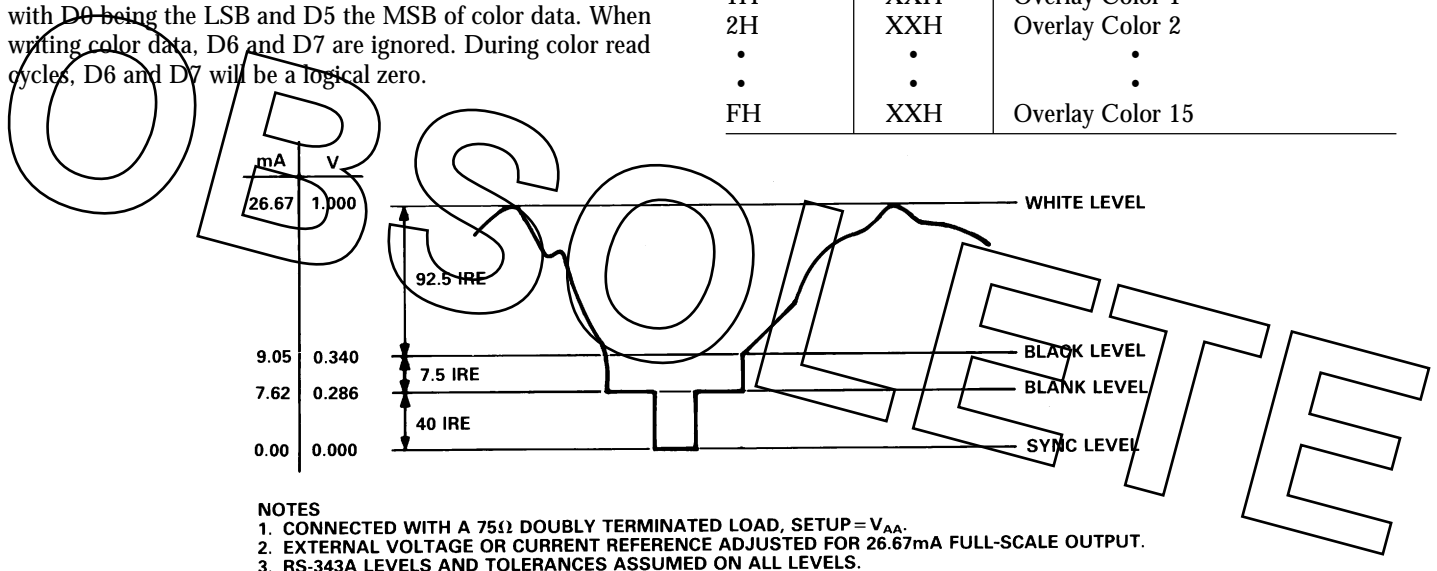

Figure 3. Composite Video Output Waveform (SETUP = VAA)
$I_{REF}$	Full-scale adjust control. Note that the IRE relationships in Figures 3 and 4 are maintained, regardless of the full-scale output current. When using an external voltage reference (Figure 5), a resistor ( $R_{SET}$ ) connected between this pin and GND controls the magnitude of the full-scale video signal. The relationship between $R_{SET}$ and the full-scale output current on each output is: $R_{SET} (\Omega) = K \times 1,000 \times V_{REF} (V) / I_{OUT} (mA)$ $K$ is defined in the table below, along with corresponding $R_{SET}$ values for doubly terminated 75 $\Omega$ loads. When using an external current reference (Figure 6), the relationship between $I_{REF}$ and the full-scale output current on each output is: $I_{REF} (mA) = I_{OUT} (mA) / K$
appropriately weighted currents to the analog outputs, producing the specific output levels required for video applications, as illustrated in Figures 3 and 4. Tables IV and V detail how the SYNC and BLANK inputs modify the output levels.